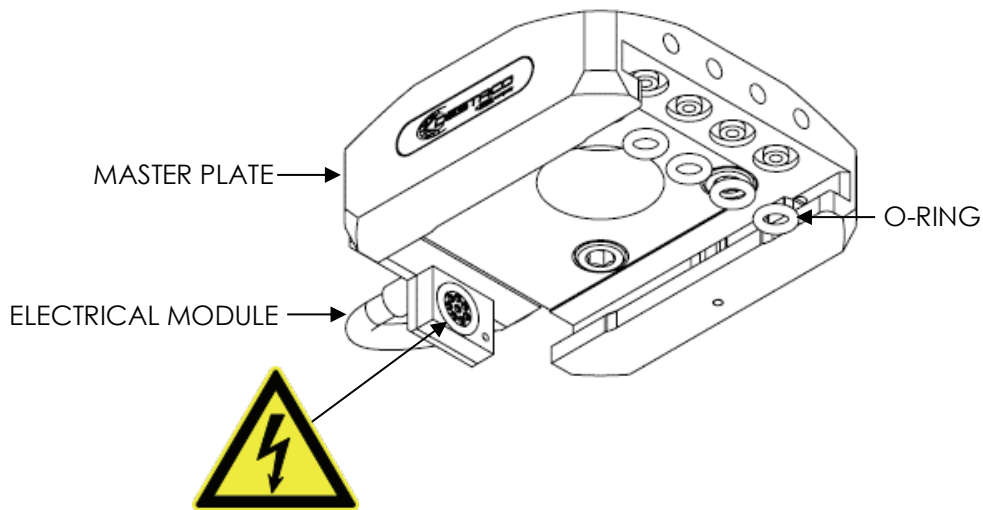

Fig.4
4. Place the new O-Rings in the O-Ring grooves of the master body and press until they are fully seated (see Fig.4). Lubricate lightly with oil after assembly.